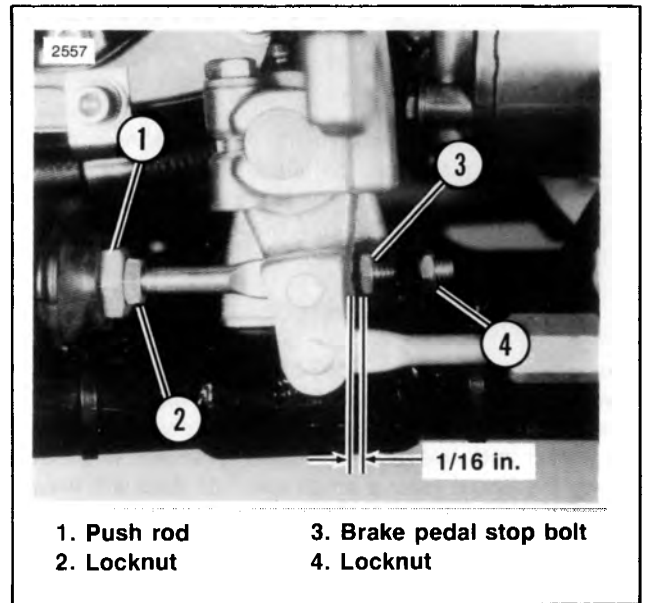

Figure 2-47. Adjusting Brake Pedal — FXRD
1. See Figure 2-47. Loosen locknut (4) and turn brake pedal stop bolt (3) in or out to achieve proper pedal position.
2. Tighten locknut (4) while holding brake pedal stop bolt (3) in place.
3. Push rod (1) must have 1/16 in. free play before activating master cylinder piston. Measure free play between brake pedal arm and brake pedal stop bolt (3). Loosen push rod locknut (2) and turn push rod in or out to achieve proper free play.
4. Tighten locknut (2) while holding push rod (1) in place.